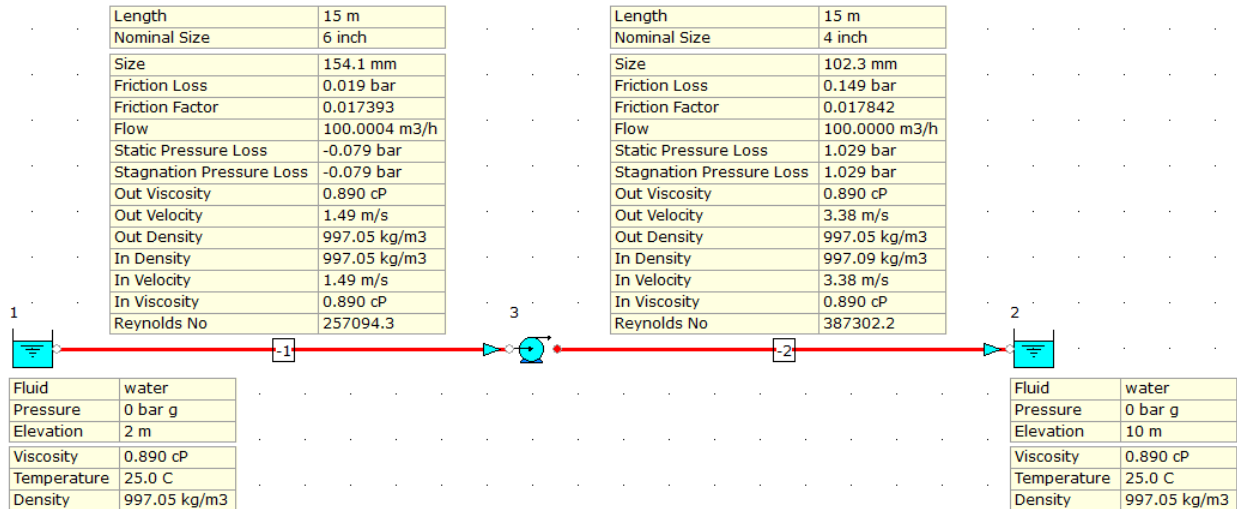

Figure 53: Hydraulic Model with Pipe Properties.
57. The hydraulic model should now look like the screenshot given below (Figure 53).